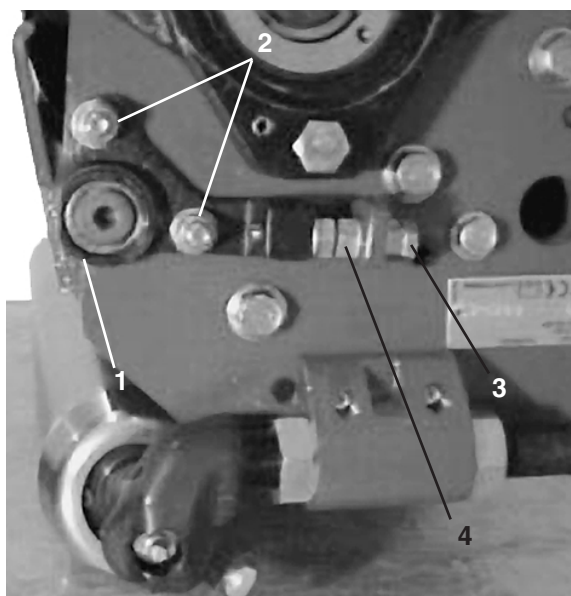

Figure 5
Note: When cutting rough or undulating turf, increase the compressed length (A) of the spring to B=1/2" (216 mm) and the gap (C) between the rear of the spring bracket and the front of the washer to 1-1/2" (39 mm) (Fig. 5).
5. Loosen the pivot hub lock nuts to allow movement of the pivot hub (Fig. 5).
6. If the paper was not cut on the left side: loosen the bottom adjusting nut on the pivot hub, then turn the top adjusting nut clockwise to pull the pivot hub up. OR If paper was not cut on the right side: loosen the top adjusting nut on the pivot hub, then turn the bottom adjusting nut counterclockwise to push the pivot hub down (Fig. 5).